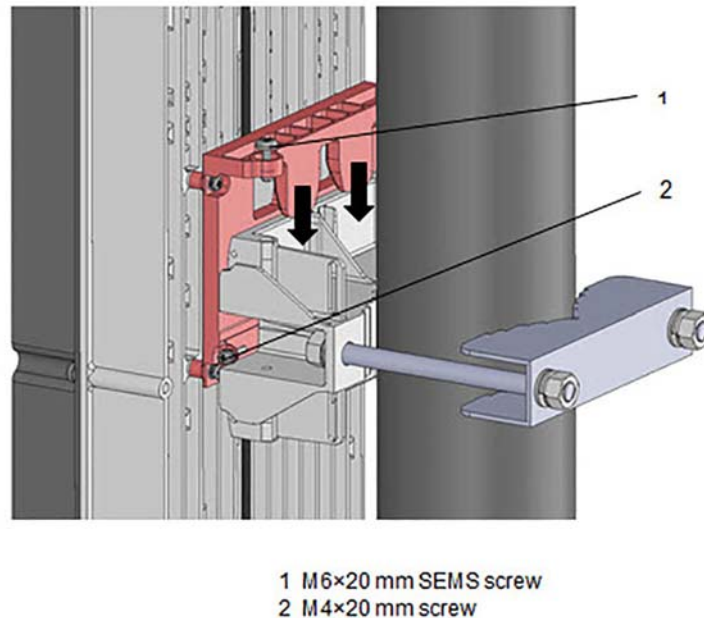

Figure 5-12 Aligning mounting plate tabs to mounting bracket
1. Hang the iRU4438 iRRH chassis on the mounting bracket by aligning the mounting plate tabs on the rear of the chassis to the mounting bracket slots (see Figure 5-12).
3. Insert two (2) M6 × 20 mm SEMS screws into the screw hole on the top of the mounting plate. See Figure 5-12.
5. Insert two (2) M4 × 20 mm SEMS screws into the screw holes on either side of the mounting plate.